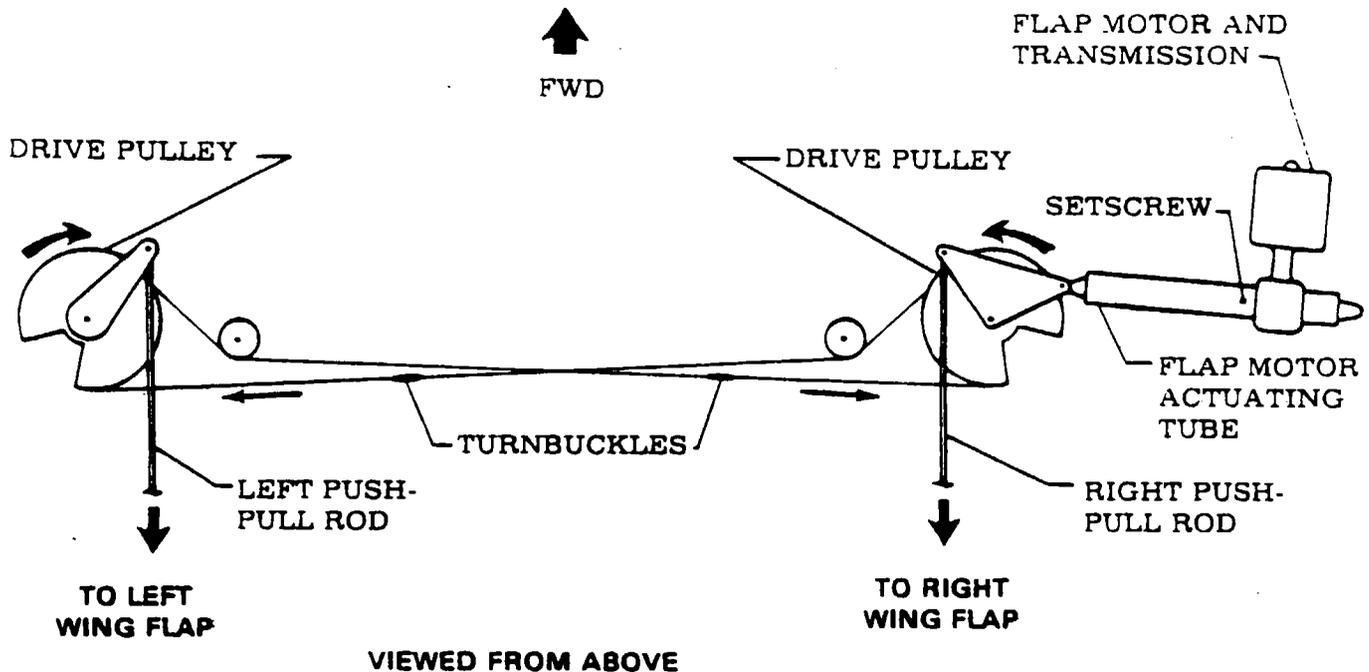

Figure 7-4. Flap System Schematic
If control cables are not connected to left and right drive pulleys, actuating tube (5) and push-pull rods (14) must be disconnected before installing cables. If drive pulleys (13) are not installed, attach control cables before installing drive pulleys in the wings as illustrated in figure 7-4.
- f. Adjust both push-pull rods (14) to $8.83 \pm .12$ inches between centers of rod end bearings and tighten locknuts on both ends. Connect push-pull rods to flaps and drive pulleys.